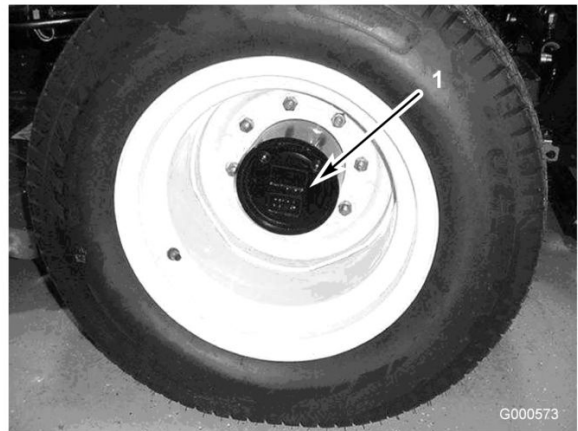

Figure 44
1. With the machine on a level surface, position the wheel so that the check/drain plug (Figure 44) is at either the 2 or 10 o'clock position.
2. Remove the plug on the planetary (Figure 44). Oil should be at the bottom of the check plug hole on the back side of the brake.